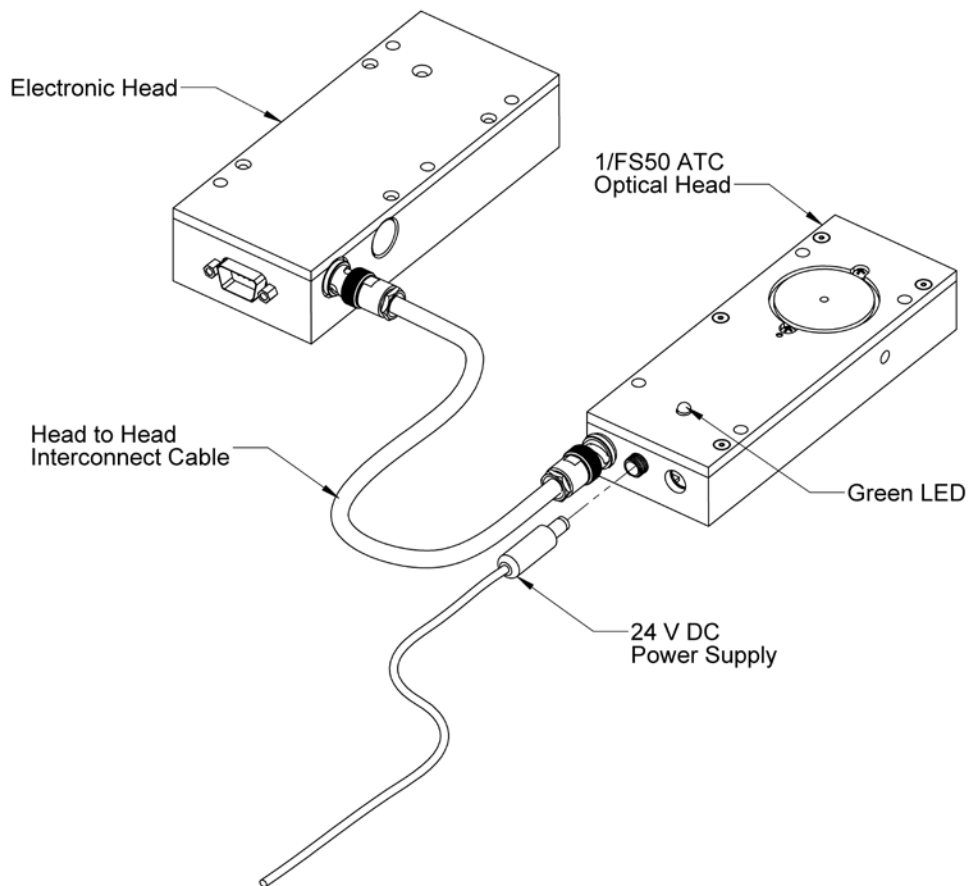

Figure 4.4 Connecting 1/FS50 Optical Head with ATC Option to Electronic Head
6. Plug in the output of the 24V DC power supply into the power receptacle on the side of the optical head as shown in Figure 4.4 on the following page. The green LED should flash on and off indicating the optical head temperature is ramping towards 32° C, the green LED will remain on steady.